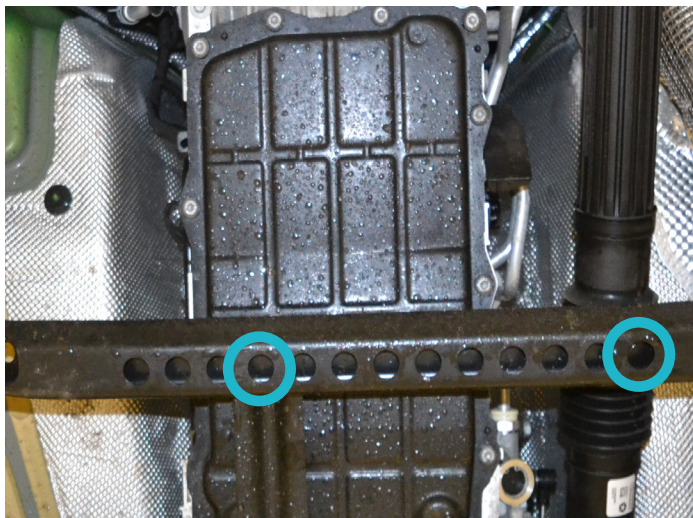

Fig.1
1. Install insert nut M8 with wires (pos.C) into vehicle crossbar (fig.1).